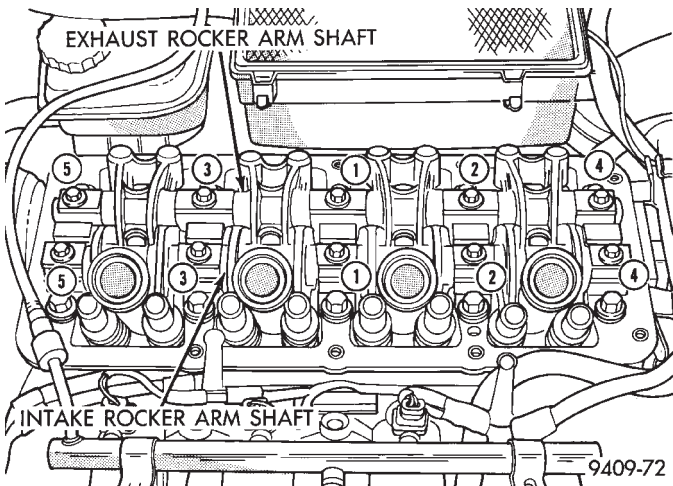

Fig. 36 Rocker Arm Shaft Tightening Sequence
(3) Tighten bolts to 28 N·m (250 in. lbs.) in sequence shown in (Fig. 36).